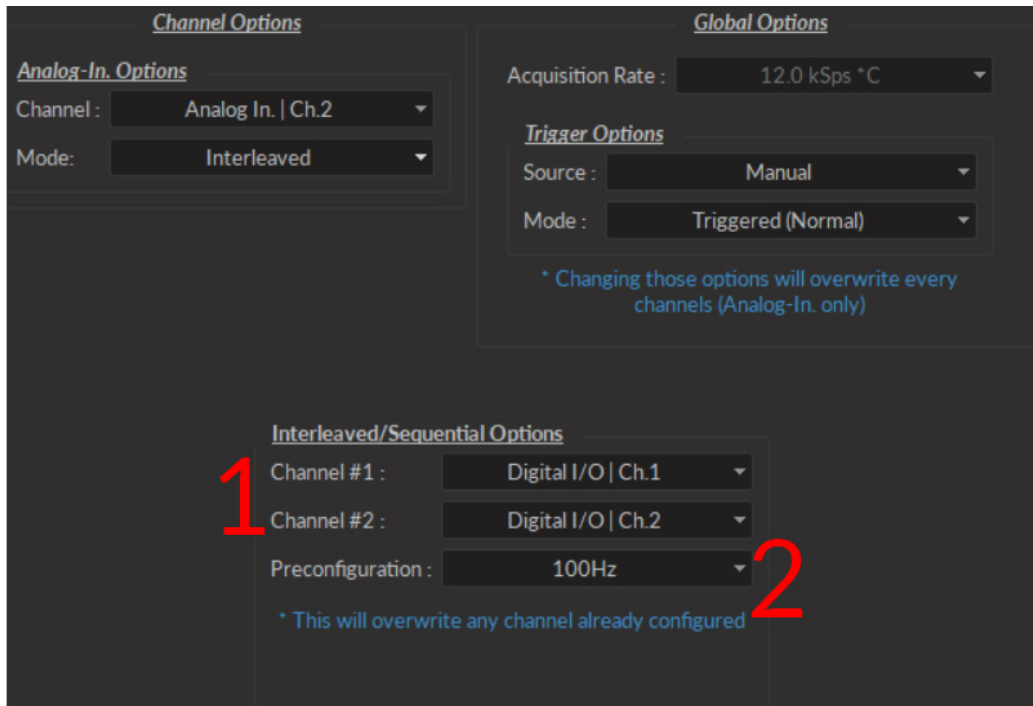

Figure 3.38: Channels configuration, Analog Input Interleaved Mode
The following section describes the usage of the **Interleaved** measurement mode for **Analog Input** channels. Once the **Interleaved** channel mode is chosen, the **Interleaved/Sequential options** box (Fig. 3.38) appears, containing the following parameters.
- The **Raw Data** (AIIn-1) (Fig. 3.38) shows the raw signal received on the input channel.
- The **Intermediate Data** (AIIn-1 x DI/O-1) (Fig. 3.38) traces show the fluorescence signal caused by each light source, obtained by multiplying the output signals by the input signal.
- The **Deinterleaved Data** (AIIn-1 x DI/O-1(mean)) (Fig. 3.38) shows the averaged signal of each demodulated pulse. This leaves a single averaged point per pulse sent by the output channels.